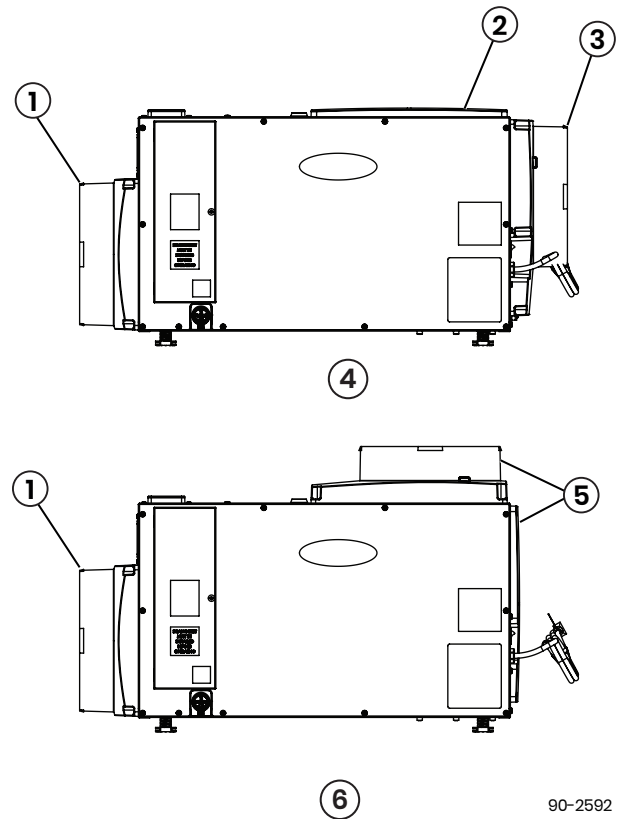

Figure 11: Fully Ducted Installations
- The outlet duct collar may be attached to the top or end of the unit. Move the outlet cover to the location not being used. *See Figure 11.*